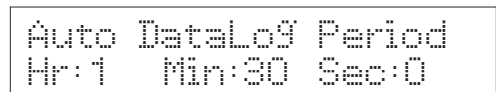

Figure 172
6. If you selected Auto in step 5, the display now reads **Auto DataLog Period Hr: Min: Sec** : Key in the time period (minimum of 10 seconds to maximum of 23 hours, 59 minutes, 59 seconds) using the numeric keypad. If you make a mistake, use  $\Delta/MI$  or  $\nabla/MR$  keys to highlight mistake, then re-enter. See **Figure 172**.